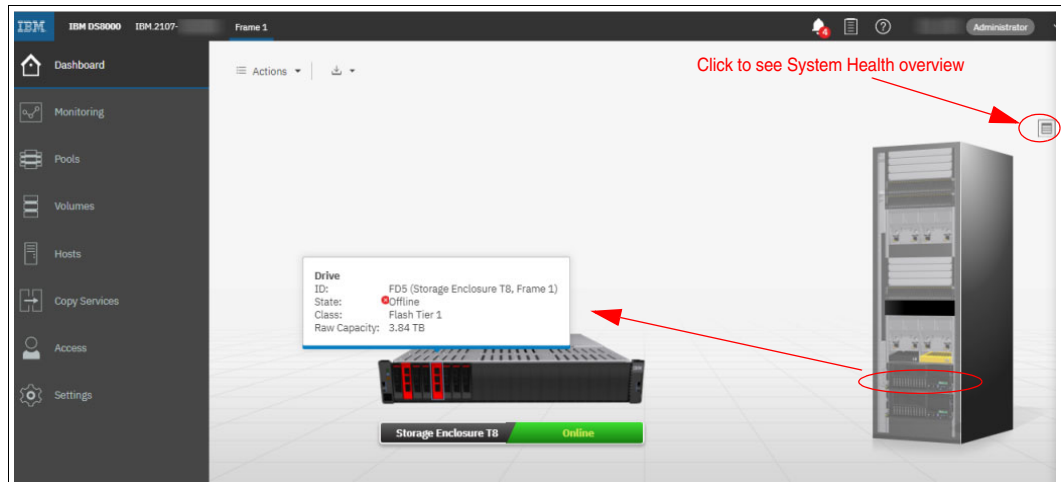

Figure 9-97 Hardware view with failed drives
- ▶ Failed drives: Figure 9-97 on page 297 shows two failed drives in one of the storage enclosures of the system. Clicking this enclosure from the Hardware view provides a detailed view of the enclosure with all the drives, including the failed drives. Hovering your cursor over the failed drives provide more information about them.
The same information can be obtained by clicking the **Show System Health Overview** icon, as shown in Figure 9-97.